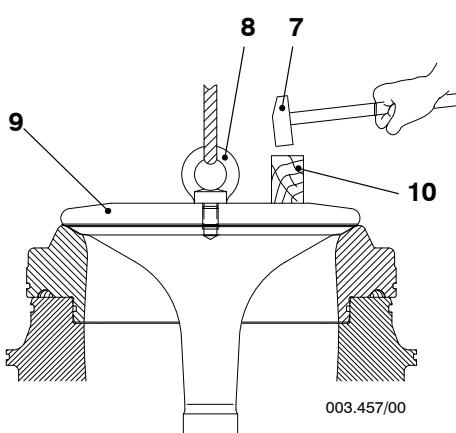

Fig. 5
- 1) Put a thin layer of engineer's blue paste on the sealing face of the valve spindle (9), see Fig. 5.
- 2) Put the valve spindle (9) in position in the valve guide bush.
- 3) Put the wooden block (10) on the valve spindle (9).